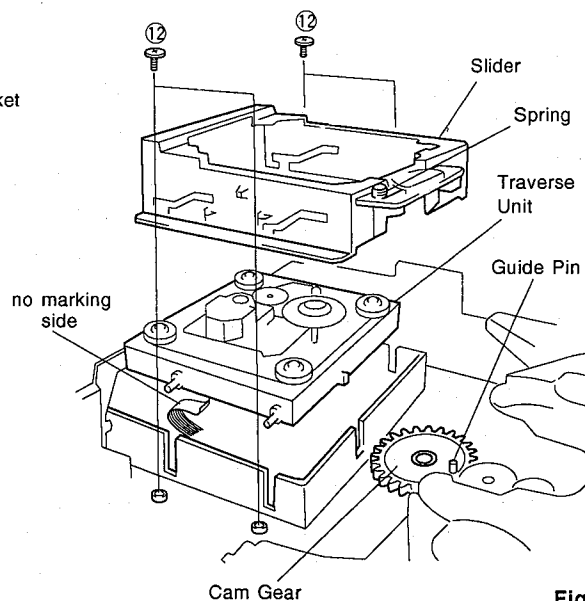

Fig. 9
- Remove 4 screws (12) and take out the Slider in Fig. 9.
- Disconnect the Flat Connecting Cable (16P) and connectors (6P) and then remove the Traverse Unit in Fig. 9.
- Turn the Cam Gear till its Guide Pin comes to the position as shown in Fig. 9.